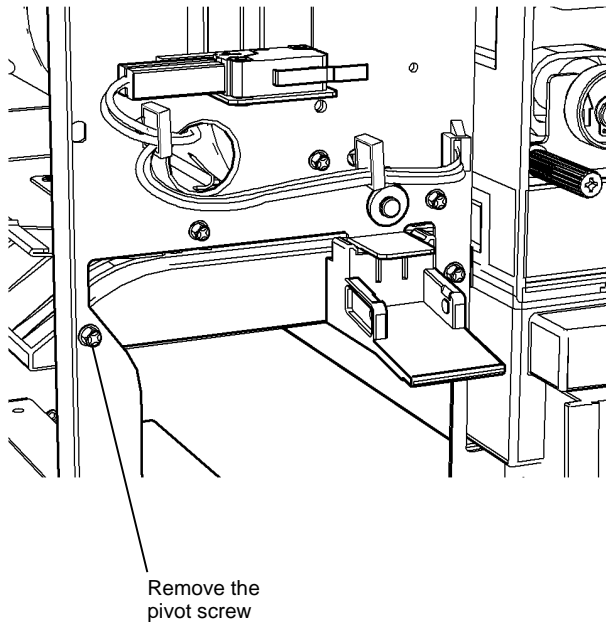

Figure 1 Pivot screw removal
4. Figure 1. Remove the pivot screw at the front of the input guide.